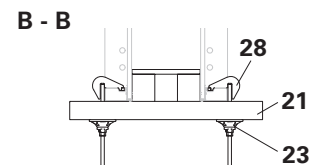

Fig. B6.03b
- Compensation Waler MAR 85 (21) with Stopend Tie (28) and Wingnut Pivot Plate (23), see Fig. B6.03b.
Compensation Waler MAR 85 (21) with Stopend Tie (28) and Wingnut Pivot Plate (23), see Fig. B6.03b.